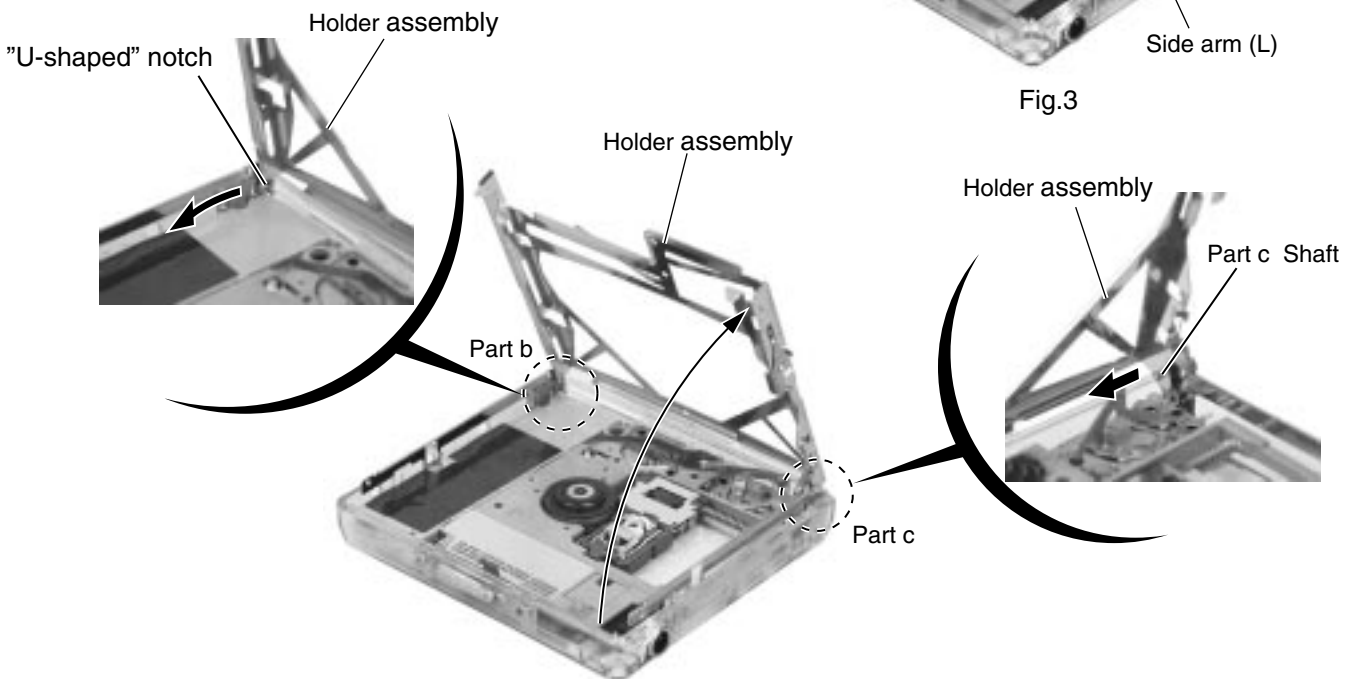

Fig.4
2. Pull the side arm (L) marked **a** and remove outward. Open the Holder assembly as shown in Fig.4.